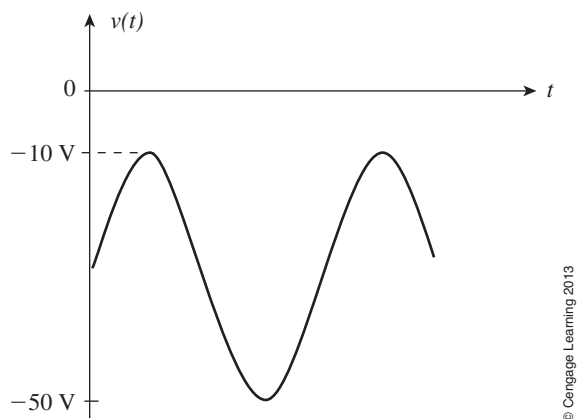

FIGURE 25–47
3. Repeat Problem 1 if the waveform of Figure 25–48 is applied to a $2.5\text{-k}\Omega$ resistor.